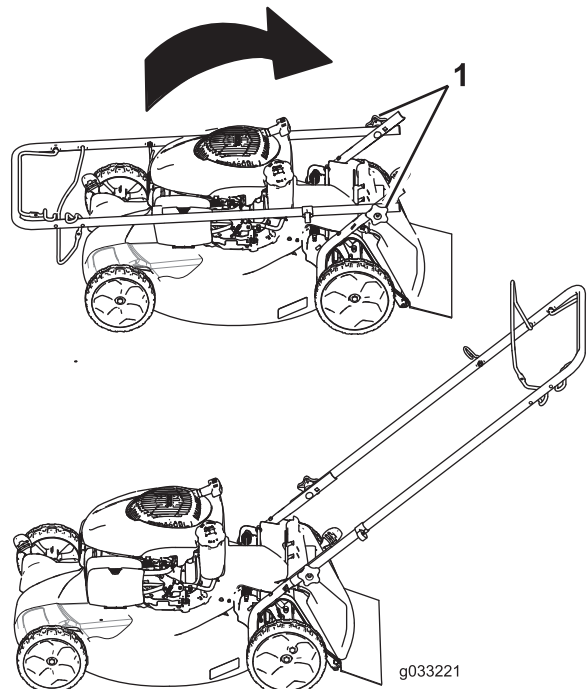

Figure 3
1. Remove the handle knobs from the machine housing (Figure 3).
1. Handle knob (2)
**Important:** Route the cables to the outside of the handle as you unfold the handle (Figure 3).
2. Move the handle to the operating position (Figure 3).